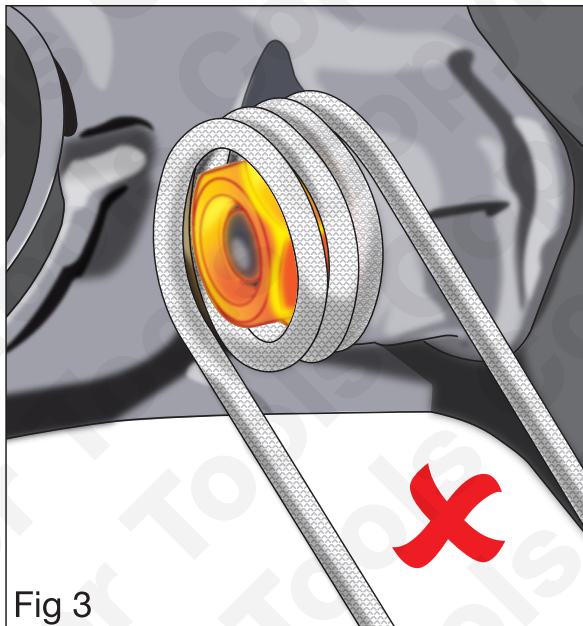

Fig 3
- Refer to Figure 3: There is no reason to heat a nut to a red-hot condition in order to free it from the rust / corrosion holding it to the bolt. Red-hot will damage the braid coil covering.